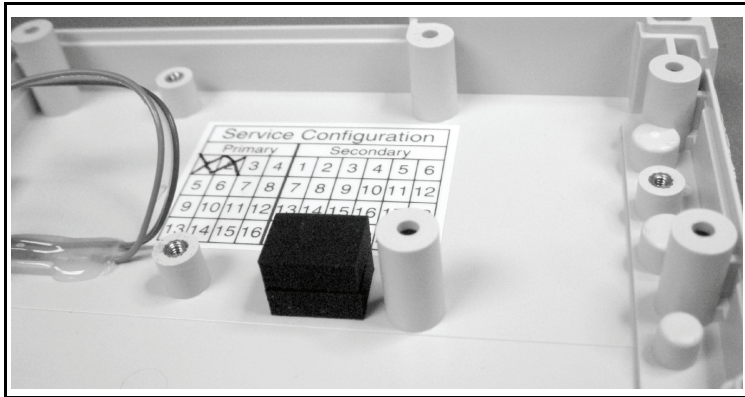

Figure 6-27. Hold-down Foam Installation
1. Refer to Figure 6-27. If not currently in place, attach two pieces of Hold-down Foam (p/n B069090000), one on top of the other, to the Rear Case as shown.